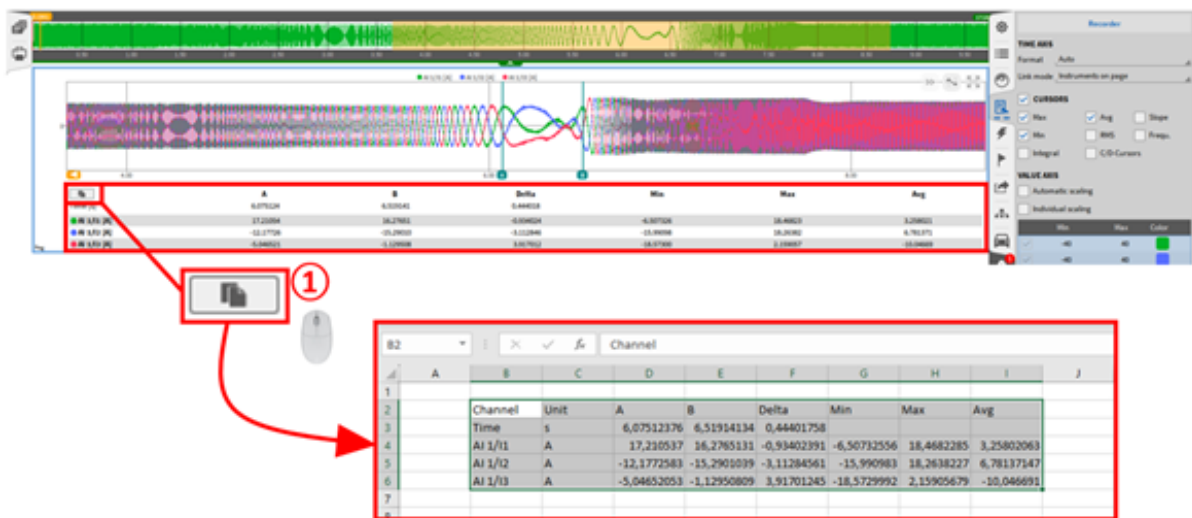

Fig. 8.23: Copy cursor values to clipboard
It is also possible to copy the displayed cursor values directly from the instrument in use to the clipboard and paste them into an Excel file or a simple text file, for example. To do this, simply click on the copy button displayed on the left above the table of cursor values (see ① in Fig. 8.23) or you can simply click in the instrument with the left mouse button and copy the values with the key combination “CTRL + C”.